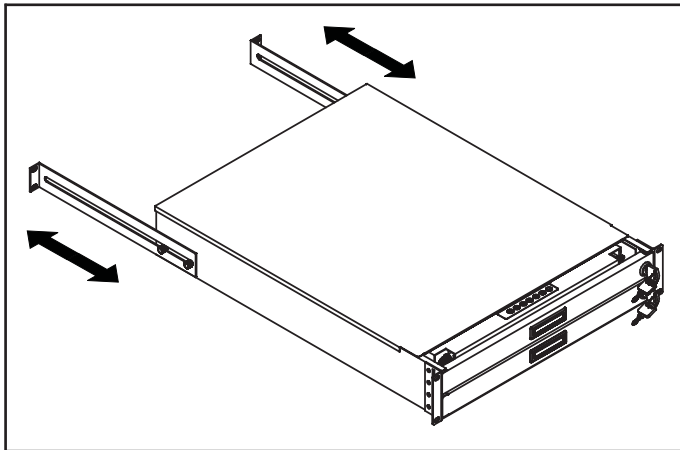

Figure 2. Aligning the rear L-brackets to a suitable length for the rack.
- Align each rear L-bracket to a suitable length and tighten the fasteners shown in **Figure 2**.